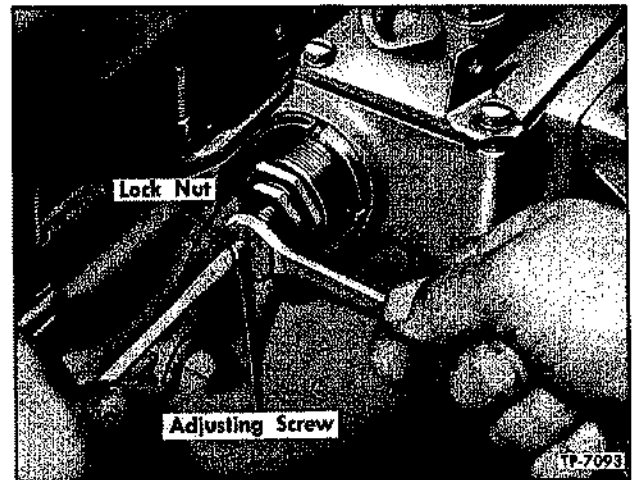

Figure 48—Adjusting Idle Speed
With engine running at idle speed, observe engine RPM at tachometer, then loosen locknut (42) and thread idle adjusting screw (43) in to increase or out to decrease until 385 engine RPM is obtained (fig. 48). Tighten locknut.